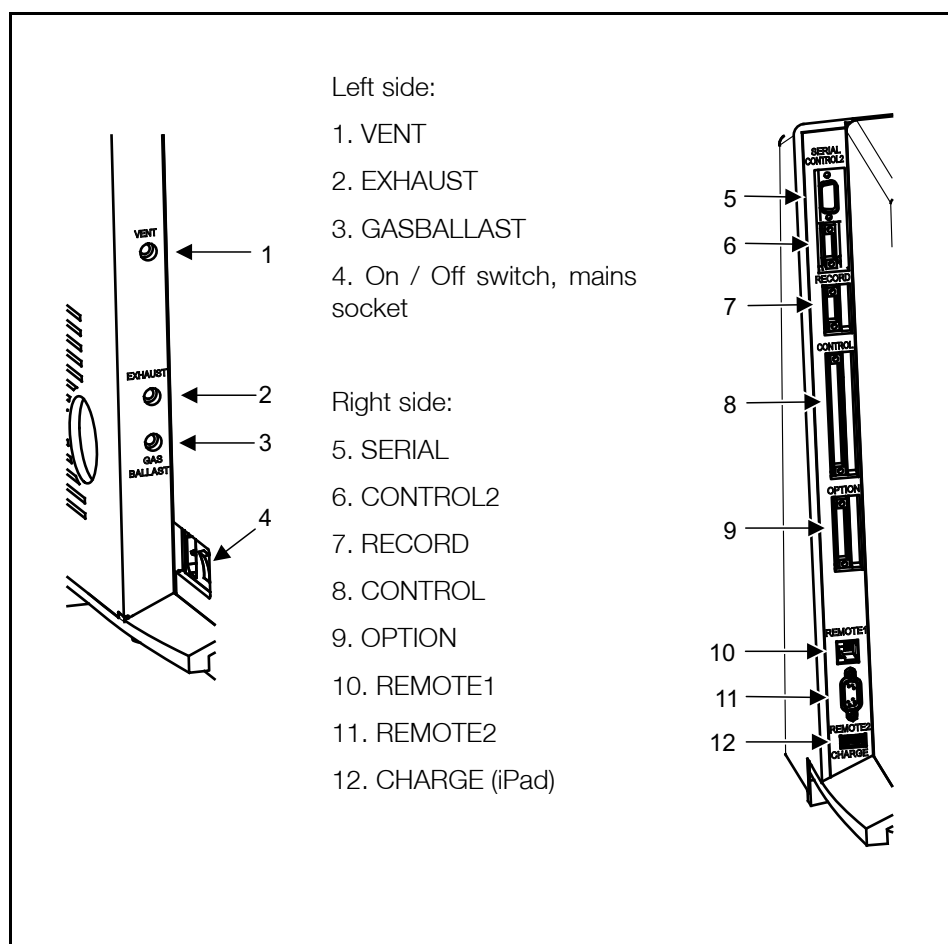

Fig. 9 Side views of the PHOENIX L300i
The mains voltage rating for the PHOENIX L300i can be read off from the name plate beneath the mains socket Fig. 9/4 at the side. This voltage is fixed and can not be changed.
The mains voltage is applied to the instrument via the detachable mains cable which is supplied with the instrument. A mains socket Fig. 9/4 is available for this purpose at the side of the instrument.
The sniffer line SL300 or the partial flow system may be connected to the option port (Fig. 9/9):
The following relay outputs Fig. 9/8 are available for further signal processing. The maximum rating for the relay contacts is 60V AC/1A.
These inputs Fig. 9/6 are working only, if the correct location of control is chosen. See chapter 3.5.
The recorder output Fig. 9/7 may be used to chart the leak rate, the inlet pressure and the fore vacuum pressure. Both recorder activities can be adjusted individually for showing leak rates and pressures.
This RS232 interface Fig. 9/5 is wired as data communication equipment (DCE) and permits the connection of a personal computer (PC) for monitoring and data logging. The connection is made through a 9 pin sub-D socket. For more information refer to chapter 3.5 and the Interface Description.
The remote control interface Fig. 9/10 is a serial interface to control the PHOENIX L300i by the remote control. The remote control can be connected via an extension cable with a RJ45 plug. Refer to the Interface Description for more information. The remote control does not belong to the standard equipment. If the remote control is connected via a cable, wireless communication over REMOTE2 is excluded.